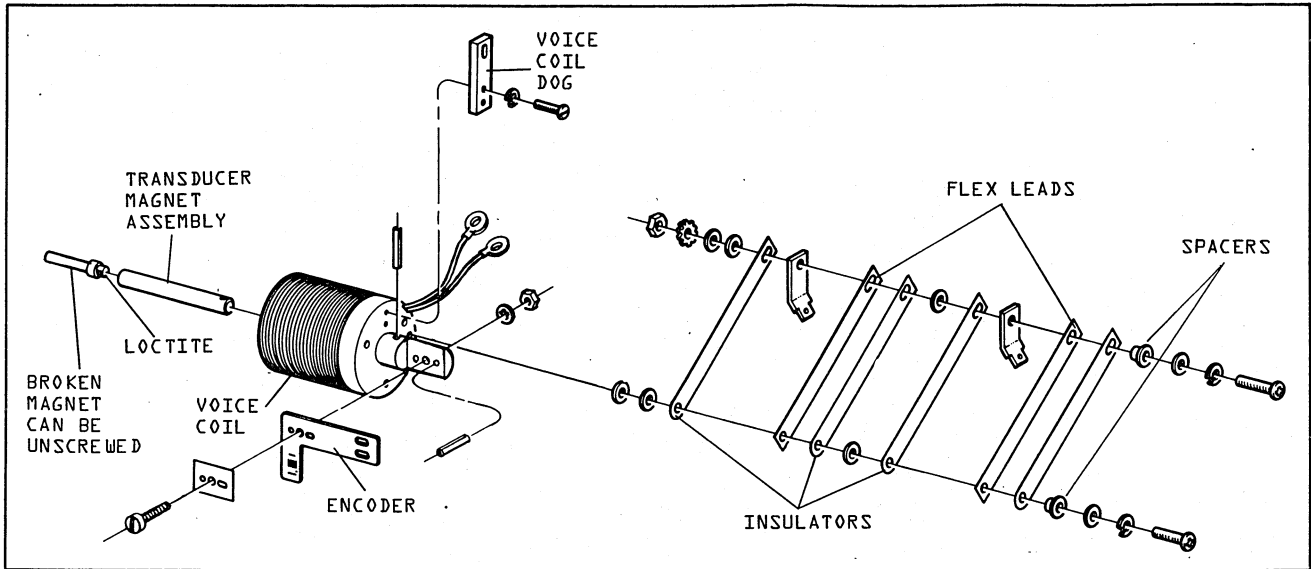

FIGURE 5-35. VOICE COIL ASSEMBLY
3. Remove the two (2) screws securing the encoder plate to the hammer bar (see Figures 5-35 and 5-36).